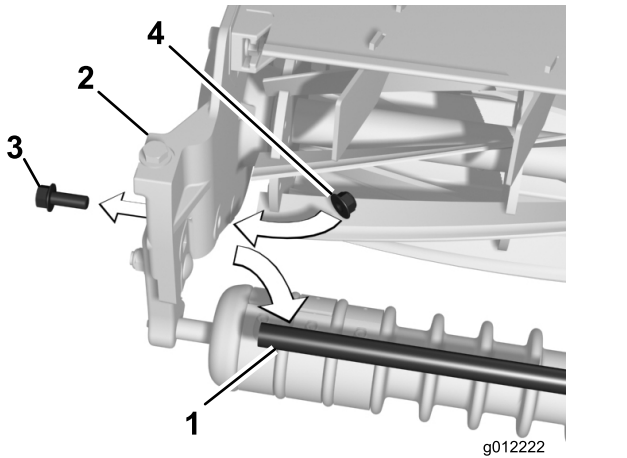

Figure 11
1. Unthread the 2 flange-head bolts securing the support tube to the cutting unit side plates (Figure 11). Remove the support tube.
2. Secure the flange-head bolts to the cutting unit side plates with the 2 flange locknuts (3/8 inch) included (Figure 11).